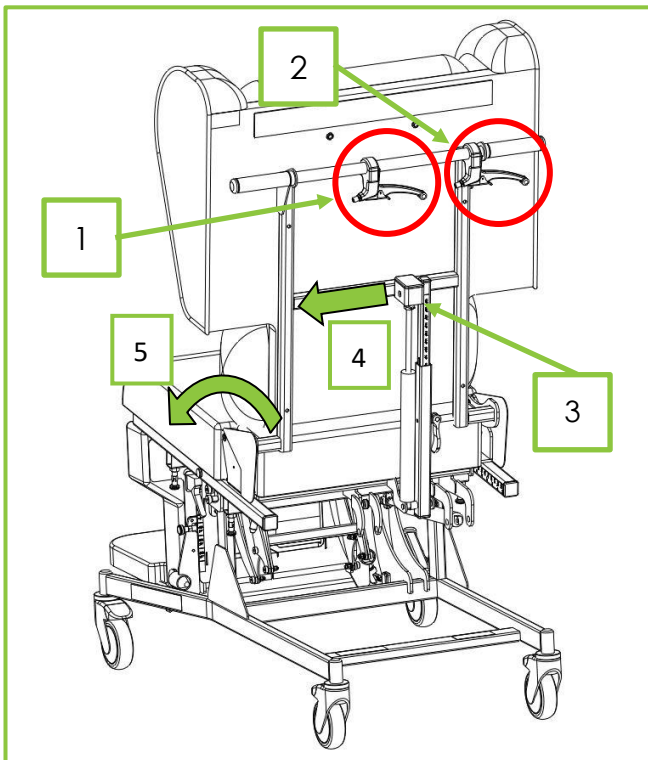
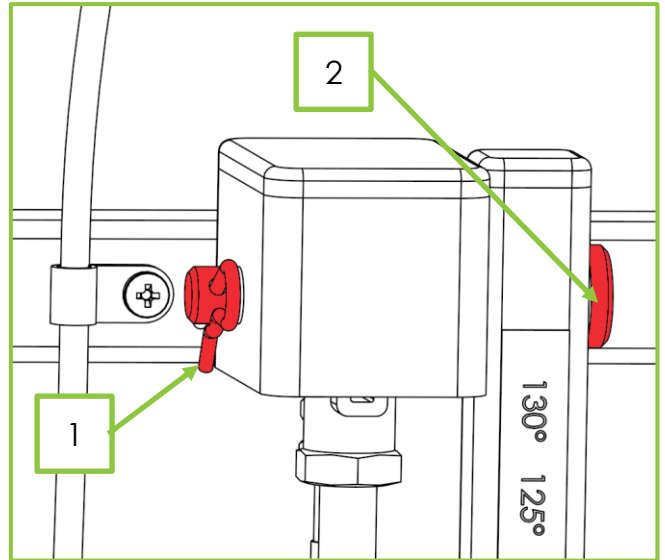

Figure 7
Figure 8 – top of backrest actuator
2. Remove the Backrest hand lever (Fig 7 Item 1) and the Tilt-in-Space hand lever (Fig 7 Item 2, if fitted) by removing 2 x cross head screws on each lever clamp. Leave the control cables connected and lay the levers to one side. Retain the screws for refitting.
3. Remove the R-clip (Fig 8, Item 1) and clevis pin (Fig 8, Item 2) from the top fixing of the backrest actuator (Fig 7, Item 3 & 4; Fig 8).
5. Remove the backrest hinge covers (Fig 10, Item 1) from the backrest pivot points (Fig 10, Item 2). Fold the backrest forwards (Fig 7, Item 5).
9. Refit the backrest actuator into the clamp on the postural backrest. Refit the clevis pin and R clip (Figure 8).